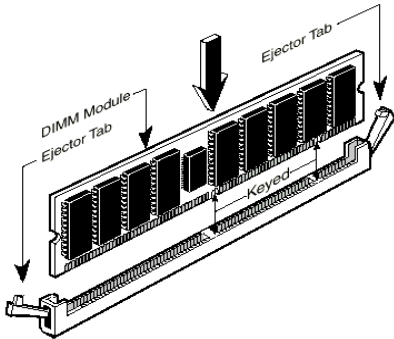

Figure 2-6. Memory module installation
Step 5. Insert the DIMM module into the expansion socket as shown in the illustration. Note how the module is keyed to the socket. You can refer to figure 2-6 for the details. ***This insures the DIMM module will be plugged into the socket in one way only.*** Firmly press the DIMM module into the DIMM socket, making certain the module is completely seated in the DIMM socket.